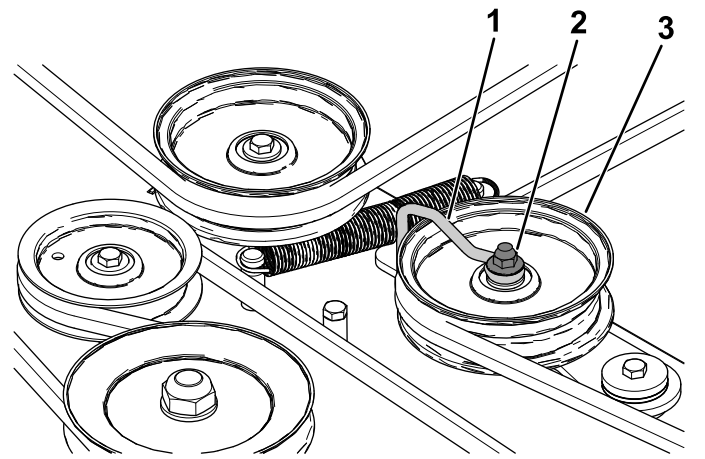

Figure 52
5. Loosen the nut securing the wire form to the idler pulley (Figure 52).
9. Tighten the nut securing the wire form to the idler pulley (Figure 52).
**Note:** Position the wireform against the idler arm as shown in Figure 52.